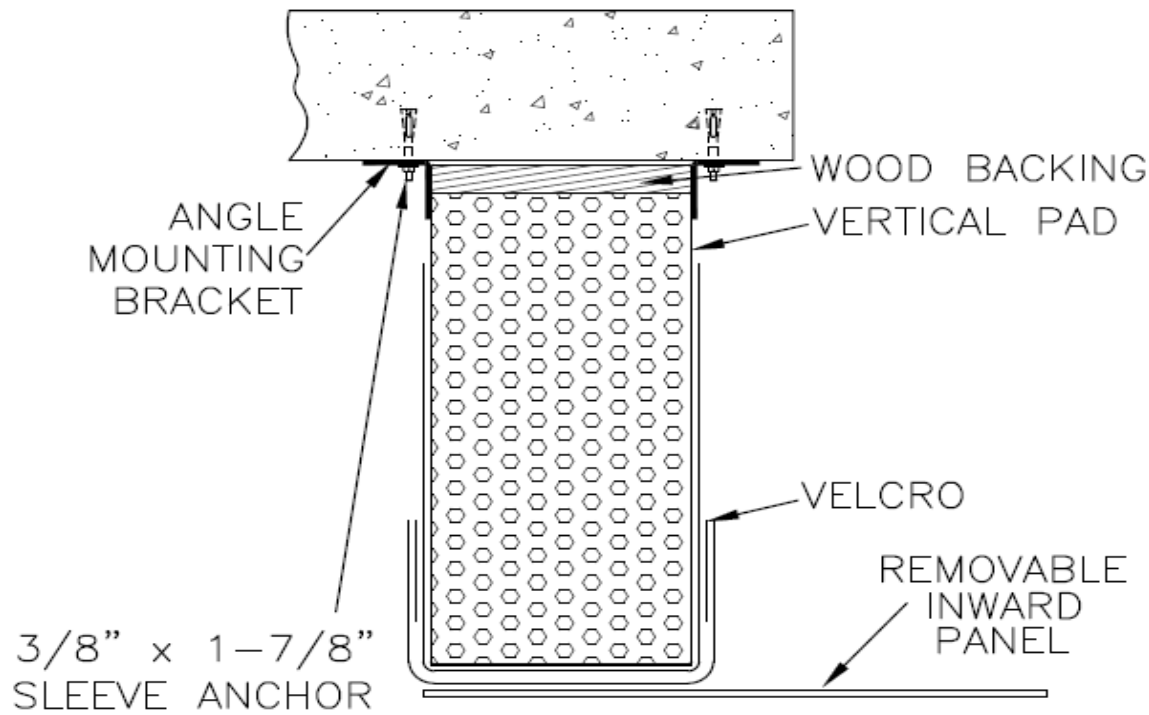

FIG. 7
- i. Once the vertical pad is in position, drill a 3/8" hole into the mounting location and then drive a 3/8" sleeve anchor bolt (**Fig. 7**) through each of the upper and lower brackets (**use holes provided**).